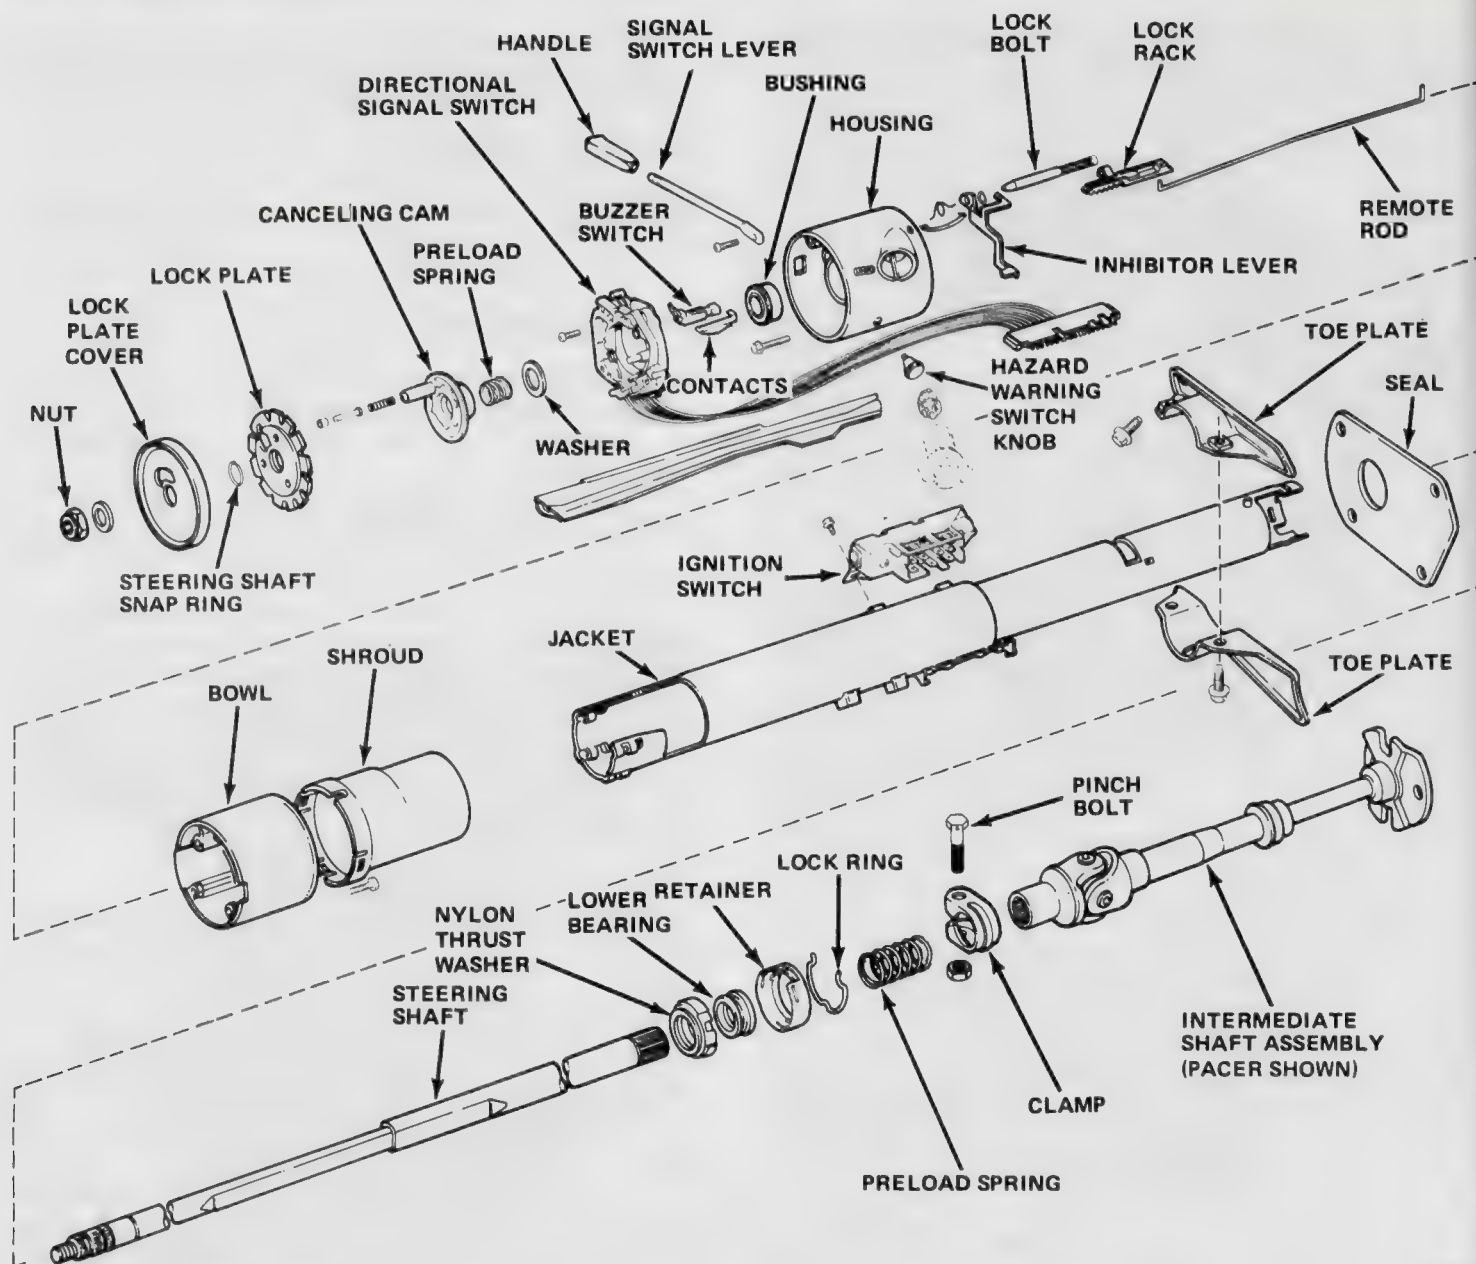

Fig. 2H-18 Standard Column—With Floorshift Manual or Automatic Transmission
(1) Apply chassis grease to all friction and bearing surfaces.
(2) Install lock sector in upper housing. Insert large end of sector through lock cylinder hole and slide sector on shaft. Press sector onto shaft using blunt punch.
(3) If removed, insert rack preload spring into housing from lower end. Hook both ends of spring onto housing.
(4) Assemble lock bolt, rack, and remote rod (fig. 2H-20) and install in housing.